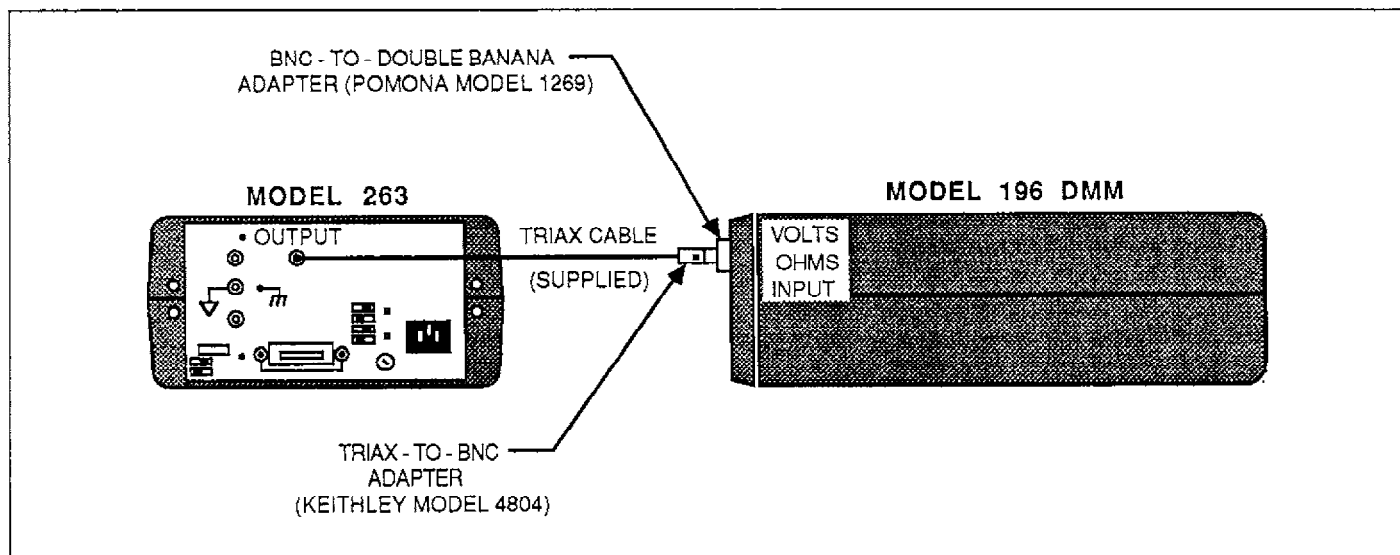

Figure 8-3. Volts and Low Ohms Calibration
2. While waiting for the Model 263 to warm up for five minutes, connect the Model 263 to the Model 196 System DMM as shown in Figure 8-3.